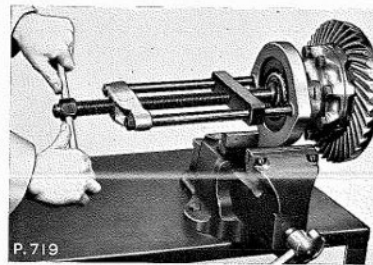

Fig. G.13. Withdrawing the bearing cone from the differential case, using the Churchill Tool R.G.4221B, and the adaptor set R.G.4221B-18A
8. The bearing cones may be withdrawn from the differential case bosses with the aid of Churchill Main Tool R.G.4221B and the Adaptor Set R.G.4221B-18A (see Fig. G.13).